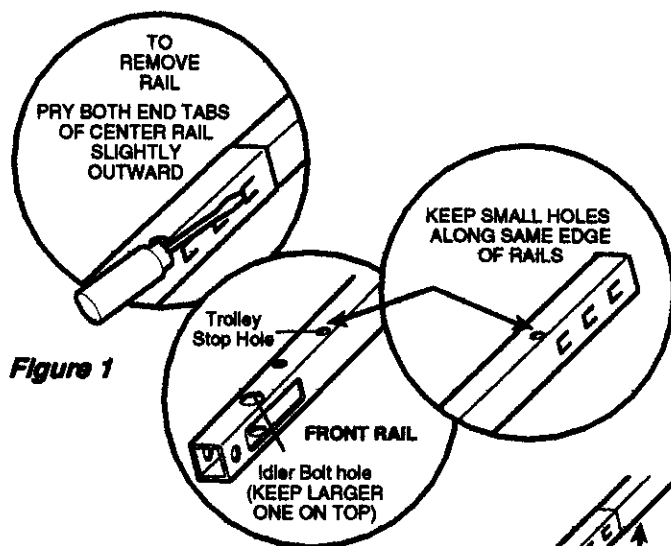

Figure 1
8. Remove the 1/4"-20x1-3/4 bolt and lock nut from the trolley stop hole (see Figure 1) in the front rail and set aside.